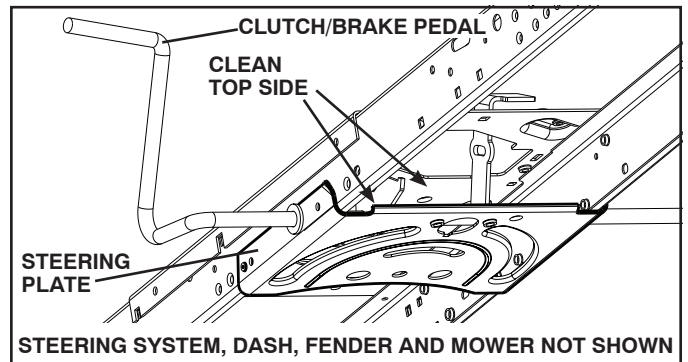

Fig. 29
- Clean debris from steering plate. Debris can restrict clutch/brake pedal shaft movement, causing belt slip and loss of drive. See Fig. 29.